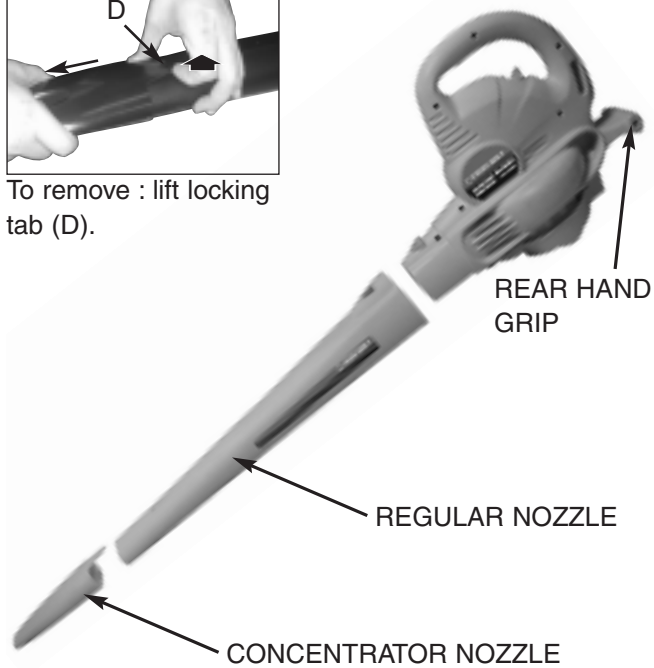

Fig. 2
2. Insert the concentrator nozzle onto the regular nozzle to lock (Fig. 2). (Concentrator nozzle is used to increase air flow in tight areas : flower beds, under decks, etc.).